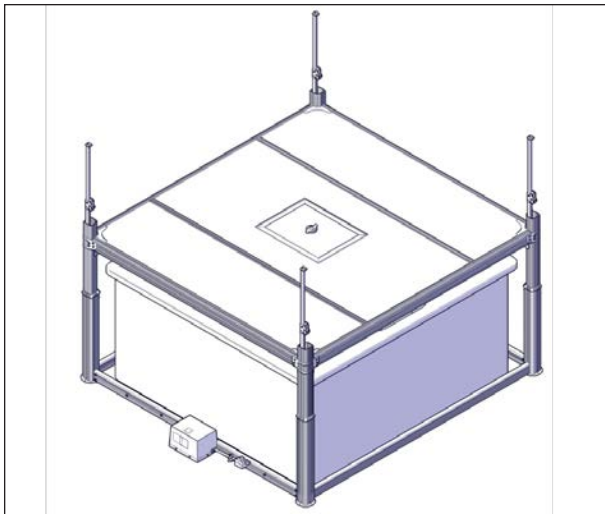

FIGURE 79: JACKS RAISING
6. Raise the jacks until they reach the maximum height, see Figure 79.